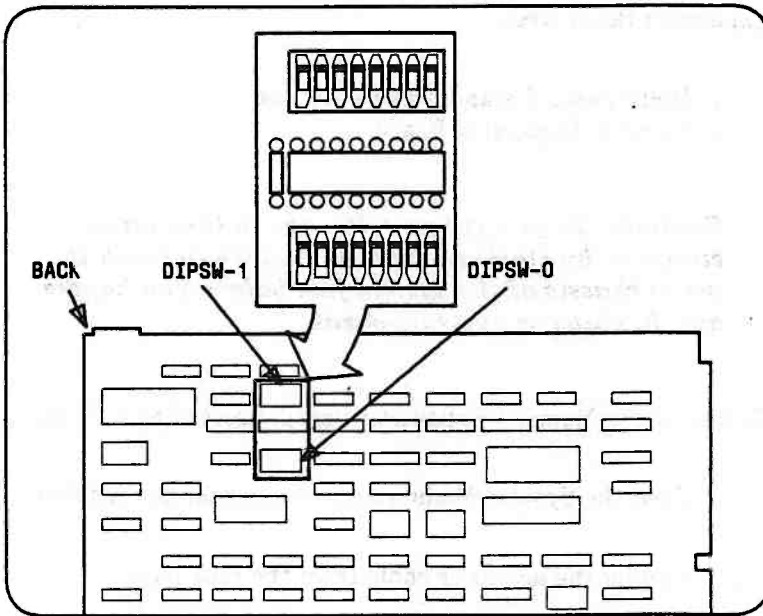

Figure 3-10. Locating DIPSW-0 on the Motherboard
7. Locate DIPSW-0 on the Motherboard (Figure 3-10).